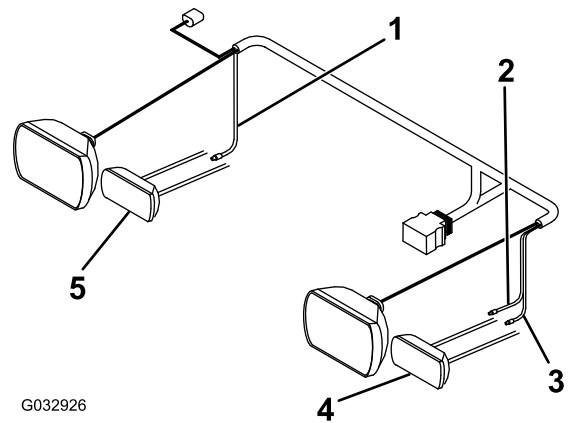

**Figure 19**
1. Disconnect the wire harness plug from the back of the left vehicle headlight (Figure 19).
2. Connect the blue plug from the long wire harness to the back of the left vehicle headlight (Figure 19).
3. Connect the black plug from the long wire harness to the previously disconnected plug on the vehicle wire harness (Figure 19).